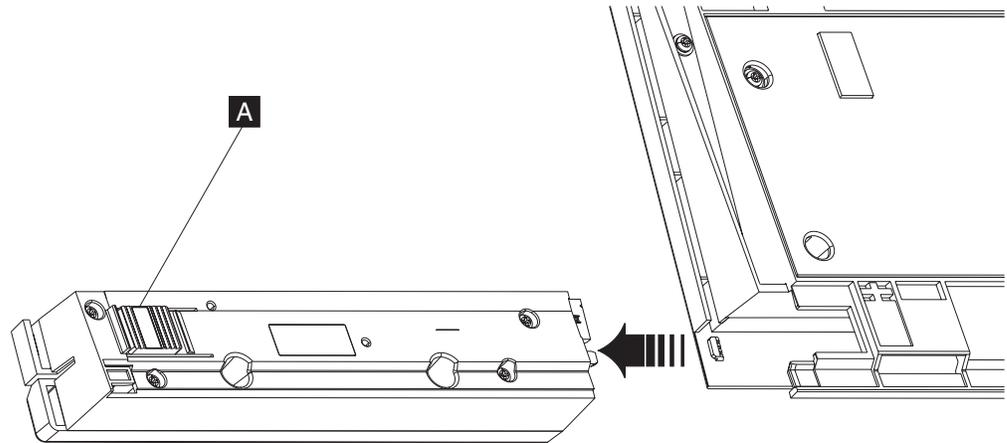

Figure 41. Removing the MSR from a modular keyboard
3. Press the blue button on the bottom-left corner of the keyboard and slide the MSR to the left, as shown in Figure 41.
1. Slide the MSR to the right, along its alignment tracks (reverse the action in Figure 41). Ensure that it fits firmly into its plug on the keyboard and that the blue button fully reengages.